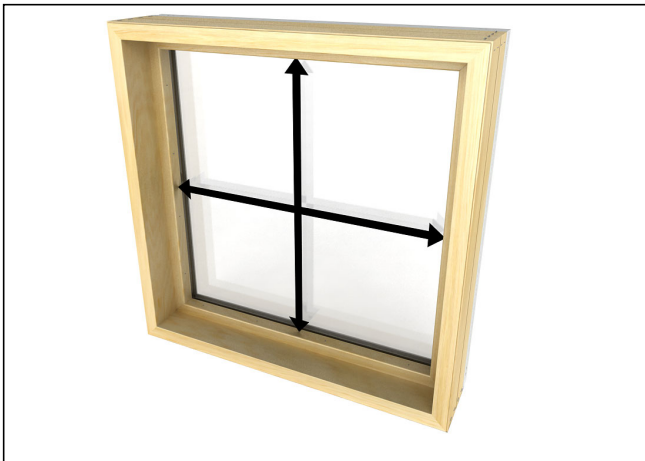

Figure 1
1. Measure the daylight opening. See figure 1.